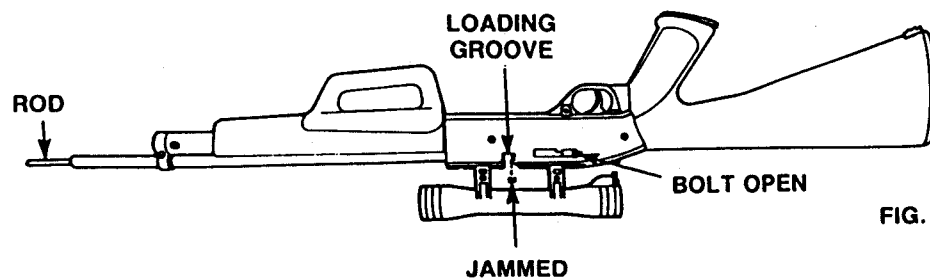

FIG. 12
- With the air rifle "On Safe", open the bolt, insert a rod or straightened clothes hanger into the barrel and carefully push the jammed pellet or BB into the loading groove. Don't try to reuse that pellet or BB again. (Fig. 12)